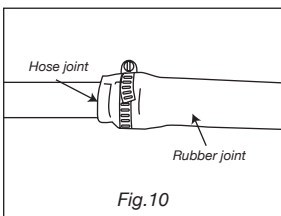

Fig.10
3. Push the hose over the hose nipple until it is fully engaged. Tighten properly with the hose end clamp. (Fig. 10)